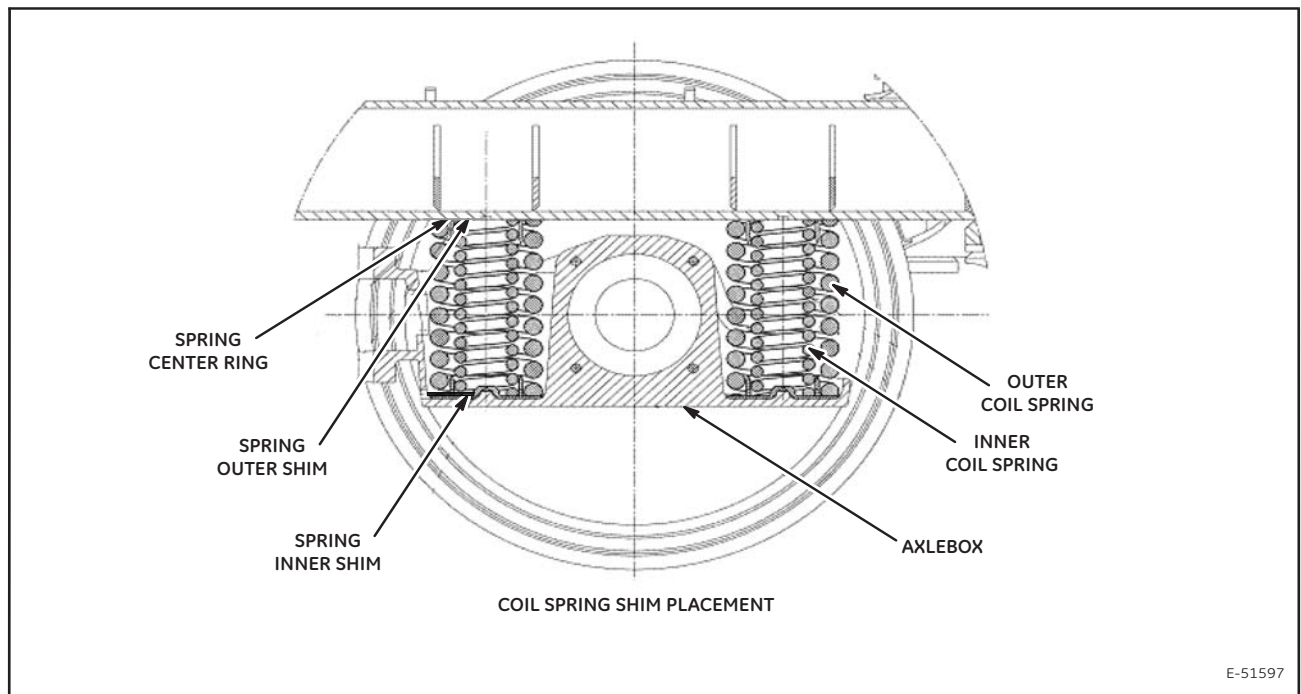

Figure 3. Coil Spring Shim Placement
2. Place the shims as required between the coil springs (inner and outer shim) and truck frame (Figure 3). Ensure that the inner and outer shim have the same thickness.
Periodically check the tightness of the hexagon bolts (Figure 3). For torque, refer to section 6., SUMMARY DATA, of this publication.